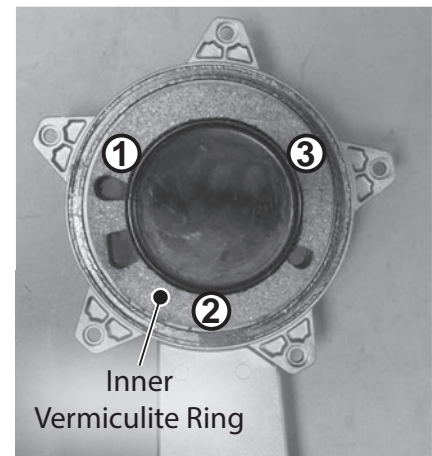

Figure 116 - Remove inner vermiculite ring
18 Locate the three (3) screws securing the inner vermiculite insulation ring to the burner door as shown in Figure 116. Use a Phillips screwdriver to remove screws. Place screws aside in a safe place for reinstallation.